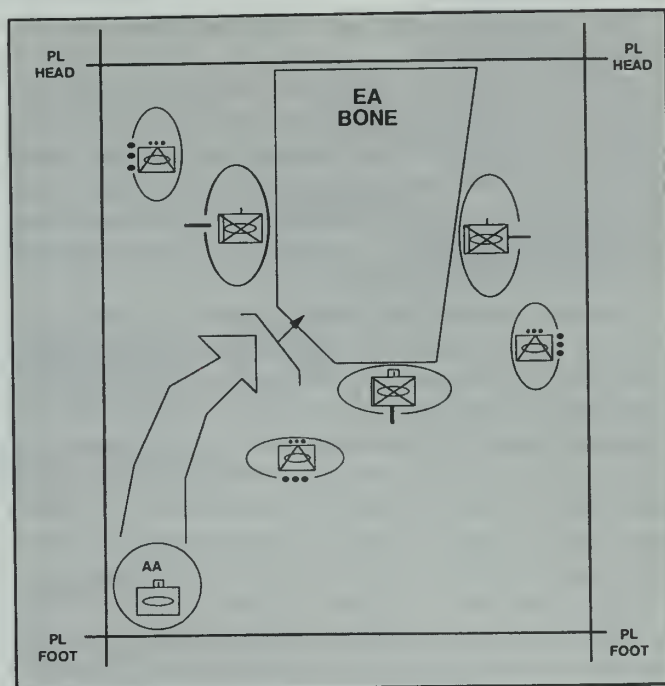

Figure 2. Echo Company in general support in the defense.
- Use the company in general support, to direct massed antiarmor fires into the task force engagement area from several battle positions (Figure 2).